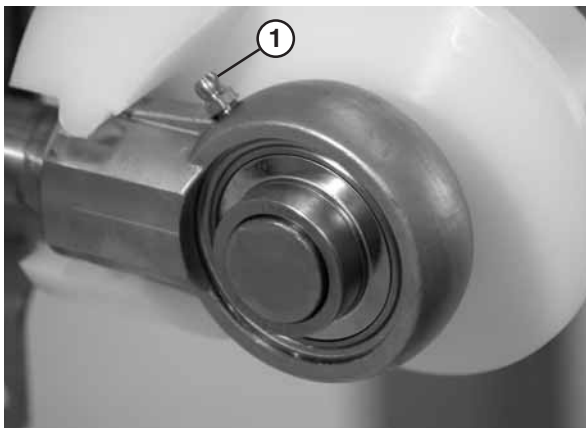

Figure 57
1. Add grease to the bearing using the zerk fitting (**Figure 57, item 1**) on the exterior of the bearing shaft assembly.